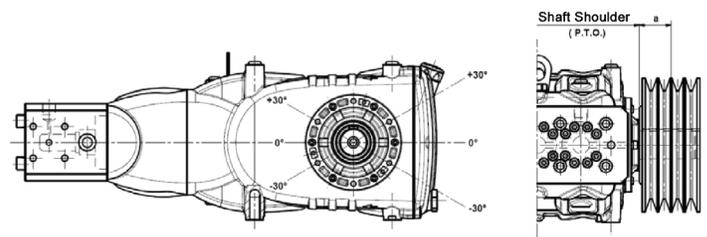

fig. 11
The pump may be driven by a v-belt system. For this pump model, we suggest to use 4 XPB belts (16.5 x 13 cogged); only for long durations, use the XPC profile; both the characteristics and the power transmission capacity of each belt can be verified on the diagram in fig. 8, in function of the number of rotations normally declared by the Manufacturer. Minimum diameter of the driven pulley (on the pump shaft): ≥ 250 mm. The radial load on the shaft must not be greater than 7500 N (value required for the definition of the lay-out). The transmission is considered adequate if this load is applied at a maximum distance of 40 mm from the shaft shoulder (PTO) as indicated in fig. 11.
- Use high efficiency belts - for example **XPB** instead of **SPB**; this will allow to use a lower number of belts to transmit the same power, and consequently a minor distance of the resultant from the shaft shoulder (PTO) "a" in fig. 11.
- e) Follow the belt tension direction as indicated in fig. 11; for different needs, please contact the **Customer Service Department**.